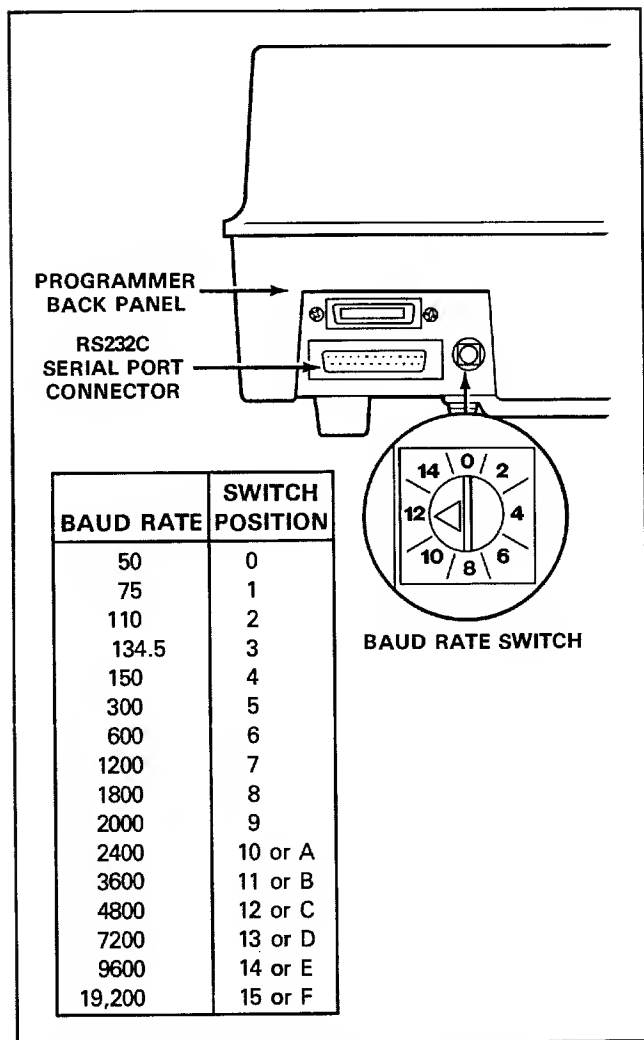

Figure 2-7. Baud Rate Switch and RS232 Serial Port
To connect the 29B to other instruments, you must use the serial interface connector pin assignments called out in table 2-2; figure 2-6 shows sample interconnections in the serial interface for half/full duplex with handshake (figure 2-6a) and without handshake (figure 2-6b) and current loop connection for full duplex (figure 2-6c) and half-duplex (figure 2-6d). See figure 2-7 for the location of the RS232C serial port connector.
To set the baud rate, refer to figure 2-7 and follow this procedure:
2. Locate the desired baud rate on the chart in figure 2-7 and the switch position required for that baud rate.